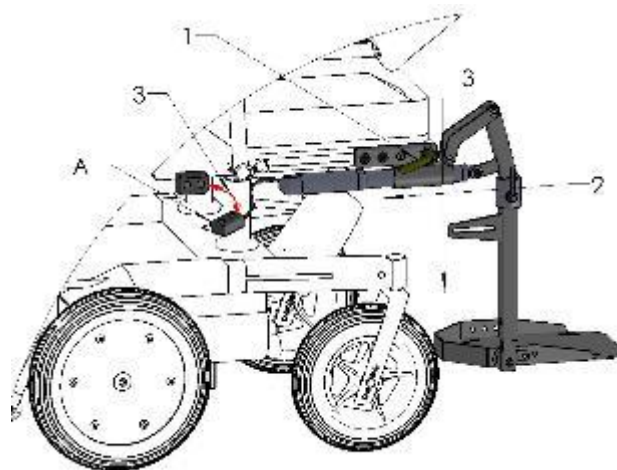

Figure 11
For chairs with electrically operated leg rests, leg rests can be removed by first separating the black plastic magnetic connector (A) and then releasing the knob (1) on the upper section of the leg rest. Push the leg rest slightly to the side (2) and the leg rest can now be pulled out and removed (3). See Figure 11.